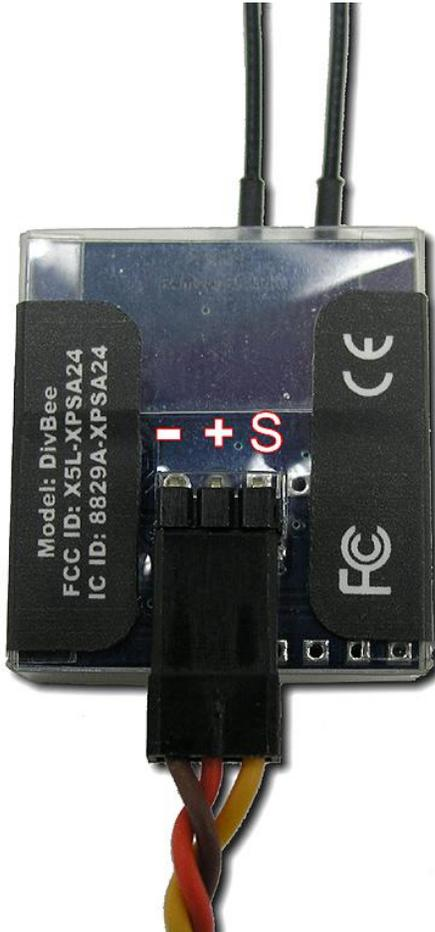

Figure 1 – RFU plug polarity details
The RFU is powered by the single cable connection using a standard servo type connector. The RFU operates from 1.8 volts to 10v, so it is 2S Lipo safe. Current consumption is ~20mA unless telemetry is enabled, which increases the current to around 70mA. When using the RFU with the X10+ Channel Expander ground, power, and signal are provided by the X10+. When using the other devices, please consult the device's manual for information on power availability. Polarity is critical for proper operation! Polarity is GROUND (-), POWER (+), and SIGNAL (S) when viewing the RFU from the backside. See Figure 1 for polarity details.